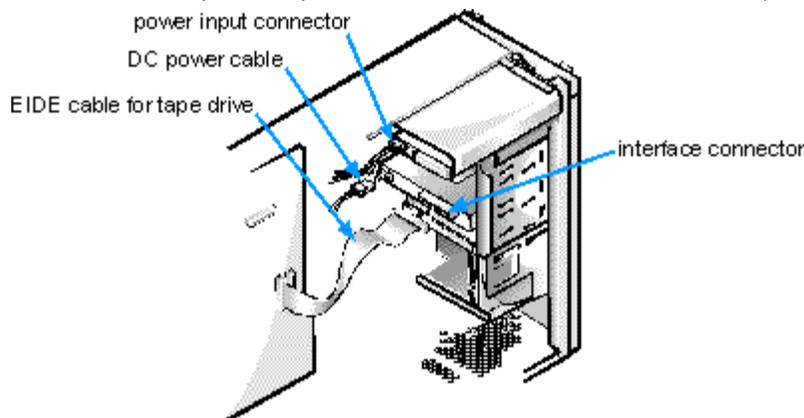

Figure 10-9. Attaching EIDE Tape Drive Cables
- Connect a DC power cable to the power input connector on the back of the drive (see Figure 10-9).
- Connect the appropriate interface cable to the interface connector on the back of the drive (see Figure 10-9).